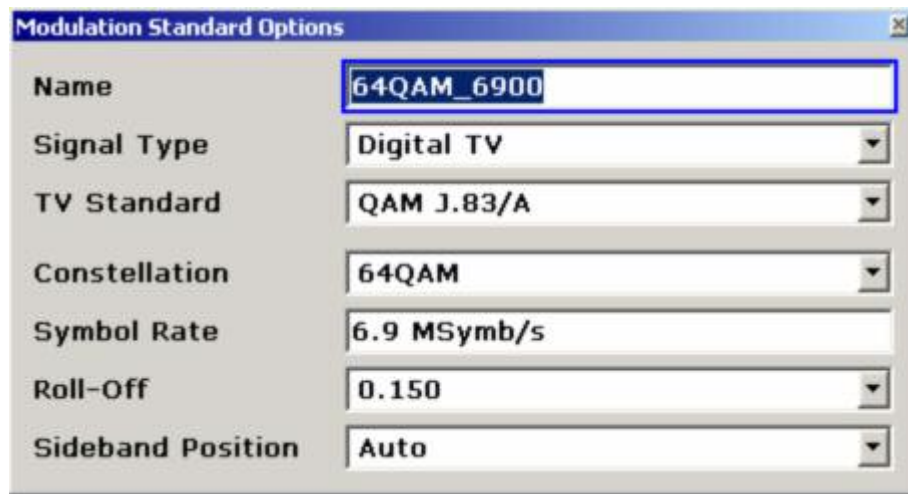

Fig. 2–52 Digital TV modulation standard 64QAM\_6900
- The **Modulation Standard Options** dialog box should now look as in Fig. 2–52.